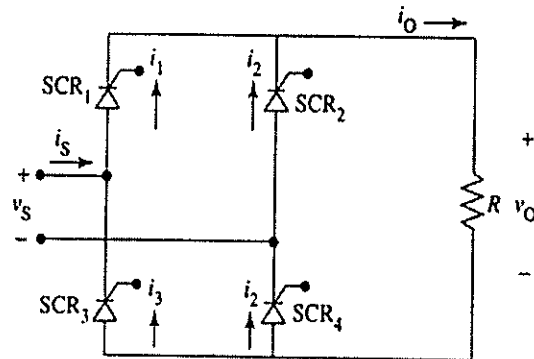

Figure 2.9 – Single Phase Full Wave Controlled Bridge Rectifier
1. Connect the circuit according to the circuit diagram in figure 2.9 given.